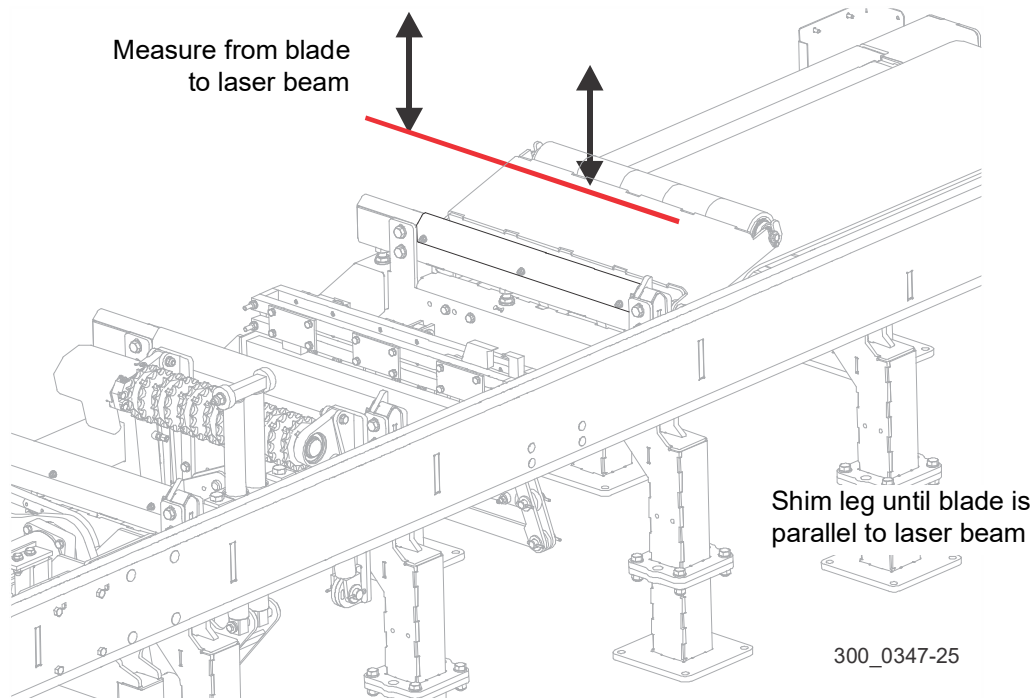

FIG. 3-35
- f. Return to the first leg, recheck the blade alignment, fine-tune as necessary. See Fig. 3-35.